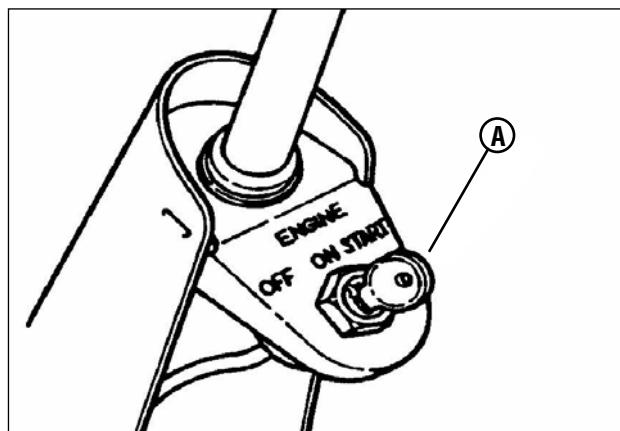

Figure 7: Ignition key
5. Turn the ignition key (A, **Figure 7**) to the “START” position until the engine starts.